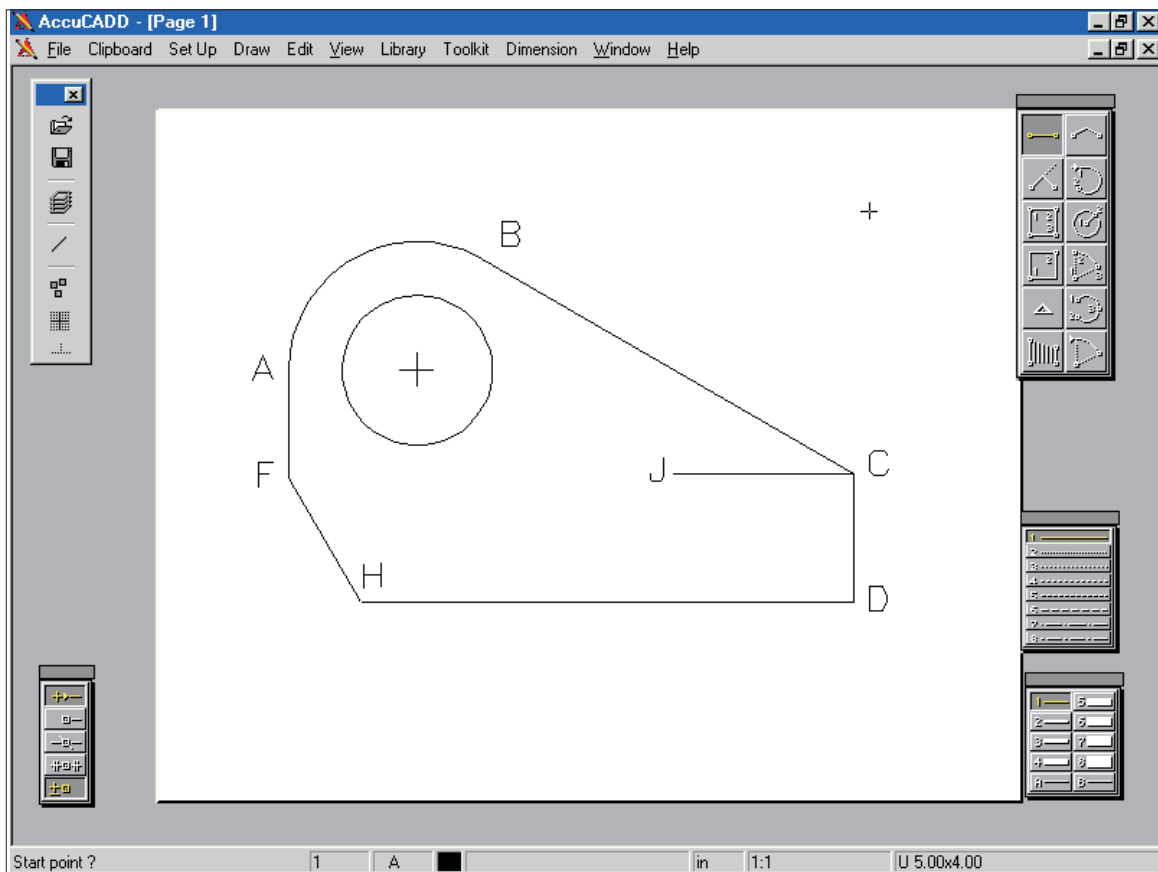

Figure 7-1: Widget outline
In this project we turn to that perennial favorite, the widget, Figure 7-1. What follows is intended to illustrate dimensioning capabilities, rather than exemplify good drafting practice (in real life you would avoid such an array of dimensioning styles). Watch out for two or three new drawing methods introduced along the way.
- [] Turn on Orth Trap, then select compass arc from the elements palette (highlighted in the elements palette shown in Figure 7-1).